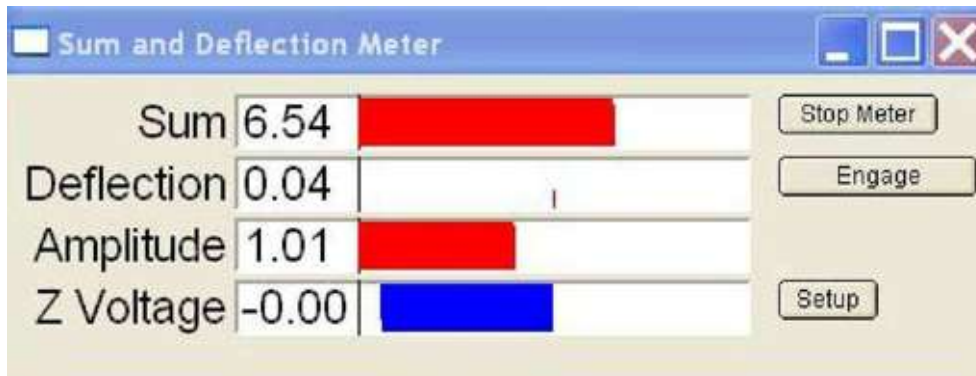

Figure 5.20 Sum and Deflection Meter Window
Regardless of your method, use the Sum and Deflection Meter window (MFP Controls / Sum and Deflection Meter) while completing alignment (See Figure 5.20). This shows you the real time status of the important optical detector parameters.
Open the Sum and Deflection Meter (See Figure 5.20). MFP Controls -> Sum and Deflection Meter menu or (Ctrl+6).
1. If the Sum and Deflection Meter is not already open, select MFP Controls/ Sum and Deflection Meter (See Figure 5.20).